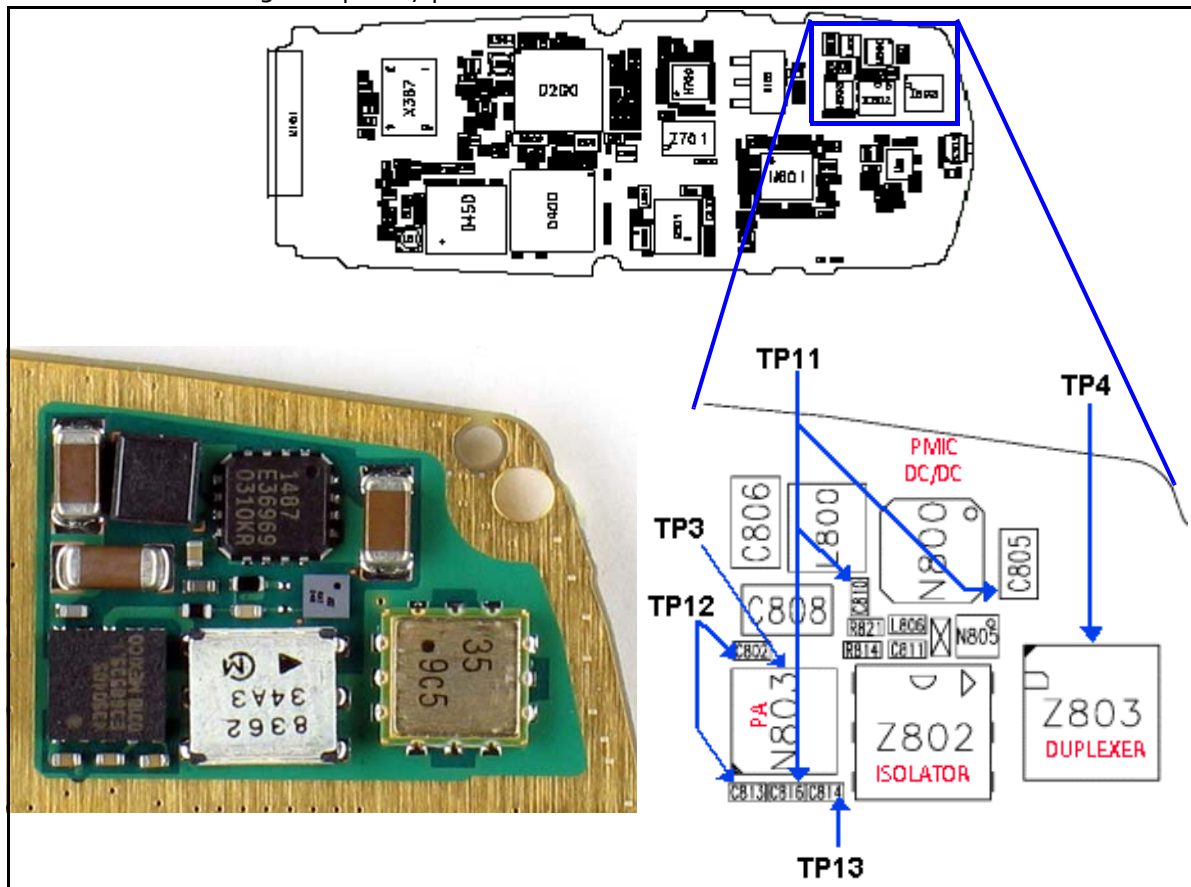

Figure 9: (Top) PWB. (Bottom left) A zoomed view of the testing points on the PA section. (Bottom right) A zoomed view of the PA section with part numbers.
* The R, L, T, and B values at the end of the part names indicate the Right, Left, Top, and Bottom side of the part respectively in Figure 8 and Figure 9.
Figure 9 shows each testing point for the PA section from Table 1, "Cell Transmitter Test Points," on page 8. Always attach a 20 dB pad (11881-60001) when probing with an HP85024A high frequency probe.